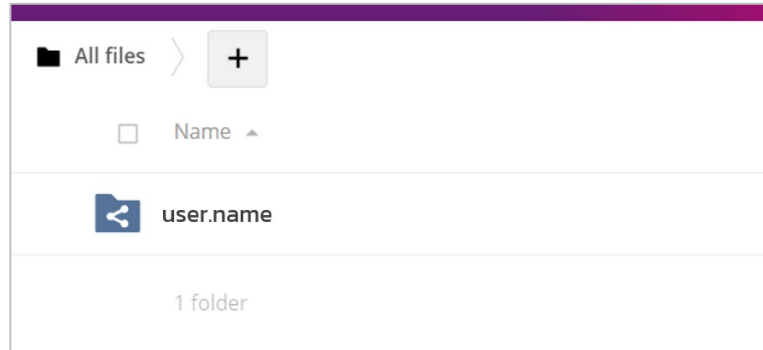

Figure 26. Access to user folder
**02** After starting the session, the user will have different folders available in their user profile (Figure 26):